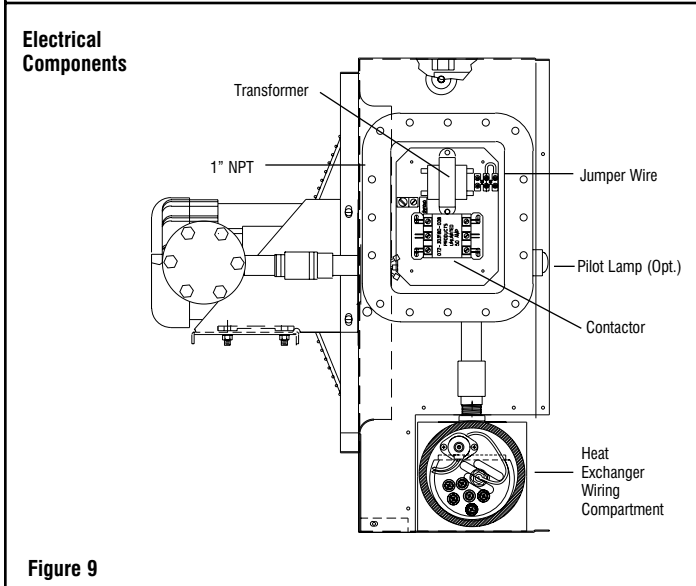
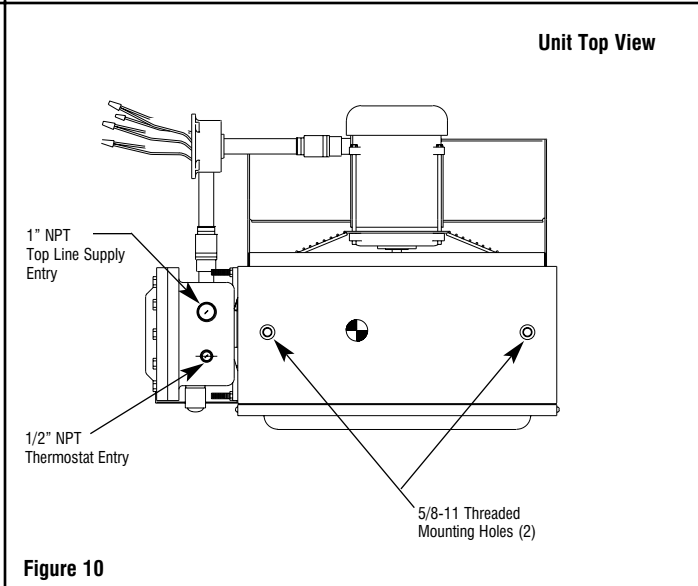

Figure 9
Figure 10
- Loosen and remove bolts securing the main terminal enclosure cover on side of unit. Connect heater to line supply wires at the box lugs located on the contactor according to the voltage and frequency specified on the nameplate (see Figure 9). Refer to the appropriate wiring diagram which also appears on the inside cover of this enclosure (see Table B and diagrams on page 6).
- Either of two 1 NPT rigid conduit openings with integral stop may be used for connection to supply line. (See Figure 9 and 10 for locations) Use only NEC approval hazardous locations means of wiring such as mineral insulated cable and fittings or rigid conduit and seal fittings located as required by installation codes.
- To operate heaters from an externally mounted hazardous location thermostat, a terminal block is provided for connection (Figures 9 and 10). Remove the factory installed jumper across T2 and T3 on the terminal strip. Wire the thermostat contact leads to these terminals. The built in control transformer supplies the unit with either 24V or 120V for internal unit operation. This voltage will appear across the thermostat contacts when they are open. The minimum thermostat contact rating should be 1 amp @ 120 VAC. Refer to nameplate for control voltage of unit. The 1/2 NPT conduit wiring entry on top of the terminal enclosure should be used to wire the thermostat to the heater (Figure 10).
- Protection against overheating is provided by a manual reset limit control located within the heat exchanger wiring compartment. (Figure 9) Activation of the control will open the control circuit and energize the pilot lamp (if supplied). If normal airflow is restricted, or stopped, the unit will be cycled off by the manual reset cutout. The manual reset limit control is also designed to shut down the unit completely if the fluid level is low or other heater malfunction occurs.